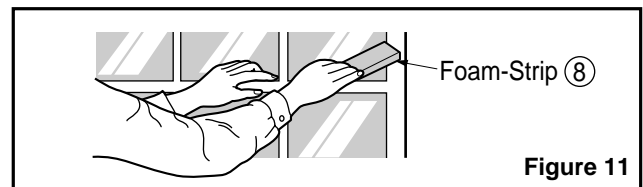

Figure 11
11. Cut the Foam-Strip ⑧ to the proper length and insert between the upper and lower window sash. (See Fig. 11)